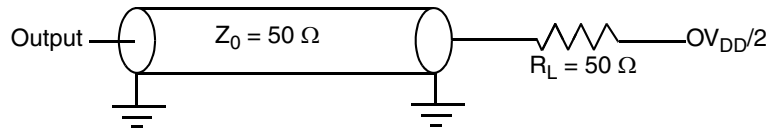

Figure 31. AC Test Load for the JTAG Interface
- All outputs are measured from the midpoint voltage of the falling/rising edge of t_{TCLK} to the midpoint of the signal in question. The output timings are measured at the pins. All output timings assume a purely resistive 50-Ω load (see Figure 31). Time-of-flight delays must be added for trace lengths, vias, and connectors in the system.
- The symbols used for timing specifications herein follow the pattern of t_{(first two letters of functional block)(signal)(state)(reference)(state)} for inputs and t_{(first two letters of functional block)(reference)(state)(signal)(state)} for outputs. For example, t_{JTDVKH} symbolizes JTAG device timing (JT) with respect to the time data input signals (D) reaching the valid state (V) relative to the t_{JTG} clock reference (K) going to the high (H) state or setup time. Also, t_{JTDXKH} symbolizes JTAG timing (JT) with respect to the time data input signals (D) went invalid (X) relative to the t_{JTG} clock reference (K) going to the high (H) state. Note that, in general, the clock reference symbol representation is based on three letters representing the clock of a particular functional. For rise and fall times, the latter convention is used with the appropriate letter: R (rise) or F (fall).
Figure 31 provides the AC test load for TDO and the boundary-scan outputs of the MPC8555E.